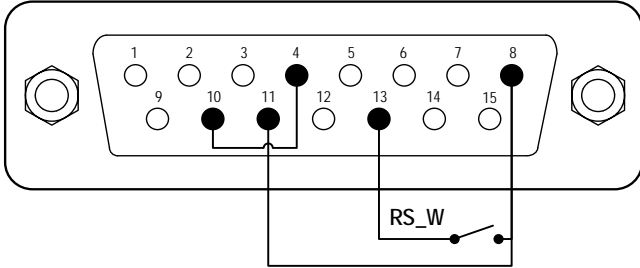

Figure 16. Logic Level Control with Internal 12V Power Source
- 1) Switch the power off. Wire the DB15 connector as shown in *Figure 16* or *Figure 17*, and connect it to the DB15 port on the rear of the pump.